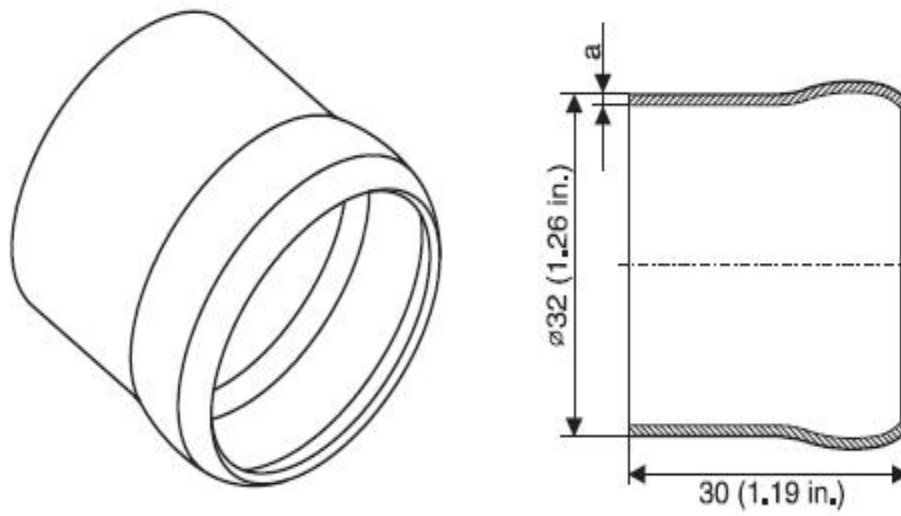

Fig.18
**Ball joint,male** (see Fig 18), Material/thickness: X15CrNiSi20-12(DIN 1.4828)( stainless steel); a=1 mm (0.04 in).